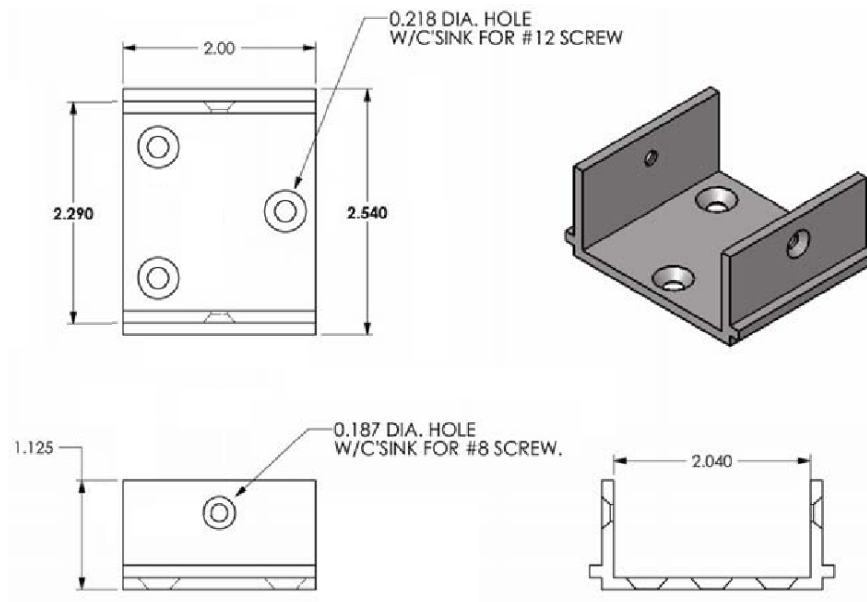

FIGURE 8 – ALUMINUM LEVEL RAIL BRACKET
3.1.11 Top and bottom rails are connected to posts using aluminum brackets secured to the posts with stainless steel wood screws. See Figures 8 and 9.